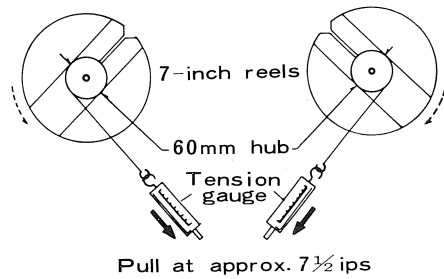

Fig. 9
2. See Fig. 9. Set FUNCTION lever to PLAY position. Attach tension gauge to end of tape or string, pull in direction indicated at approximately normal tape speed ( $7\frac{1}{2}$  ips). Proper reading should be between 60 and 80 grams.